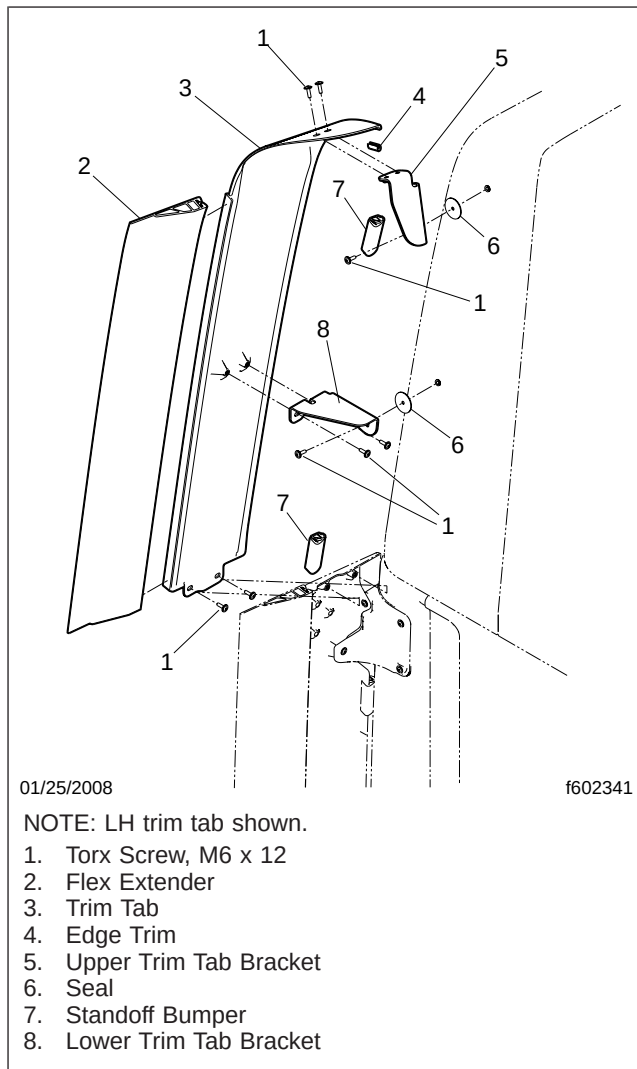

Fig. 1, Trim Tab Installation
2. Remove the two M6 x 12 screws that attach the bottom of the trim tab to the side extender; see Fig. 1.
1. If replacing the trim tab, attach the rubber flex extender, brackets, standoff bumpers, and edge trim to the new trim tab, as follows; see Fig. 1.